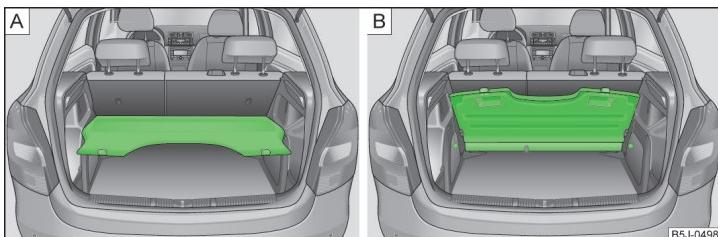

Fig. 65 The luggage compartment cover: Stowed in the lower position/behind the rear seats
- In the lower position on the support elements » Fig. 65 - **[A]** » **!**
- Behind the rear seats » Fig. 65 - **[B]**.
In this position » Fig. 65 - **[A]** the luggage compartment cover is designed for small objects up to a weight of 2.5 kg.